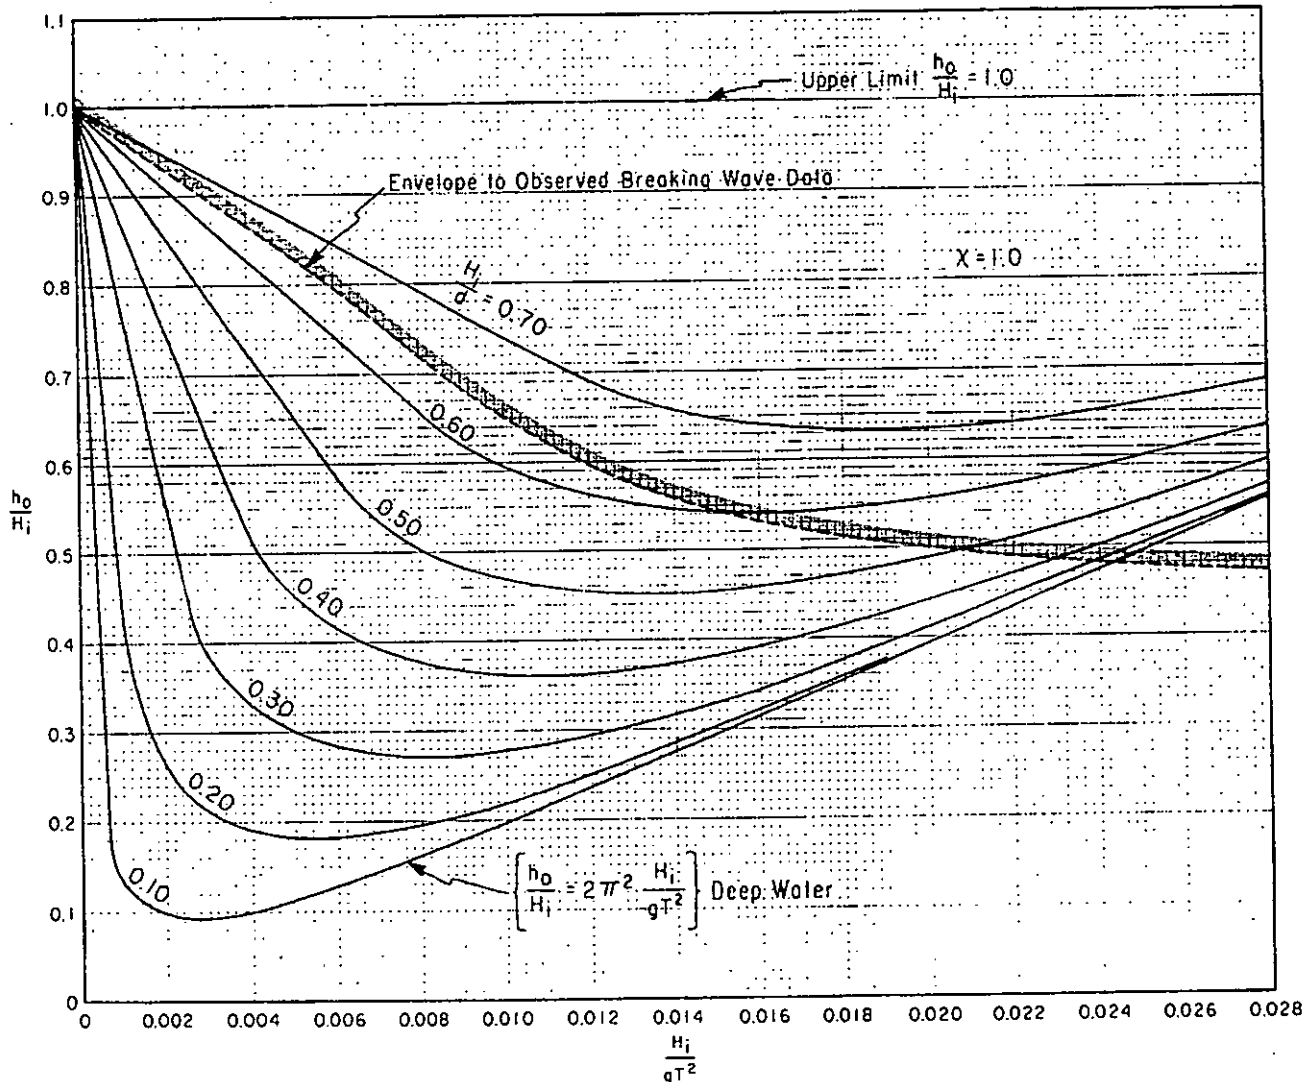
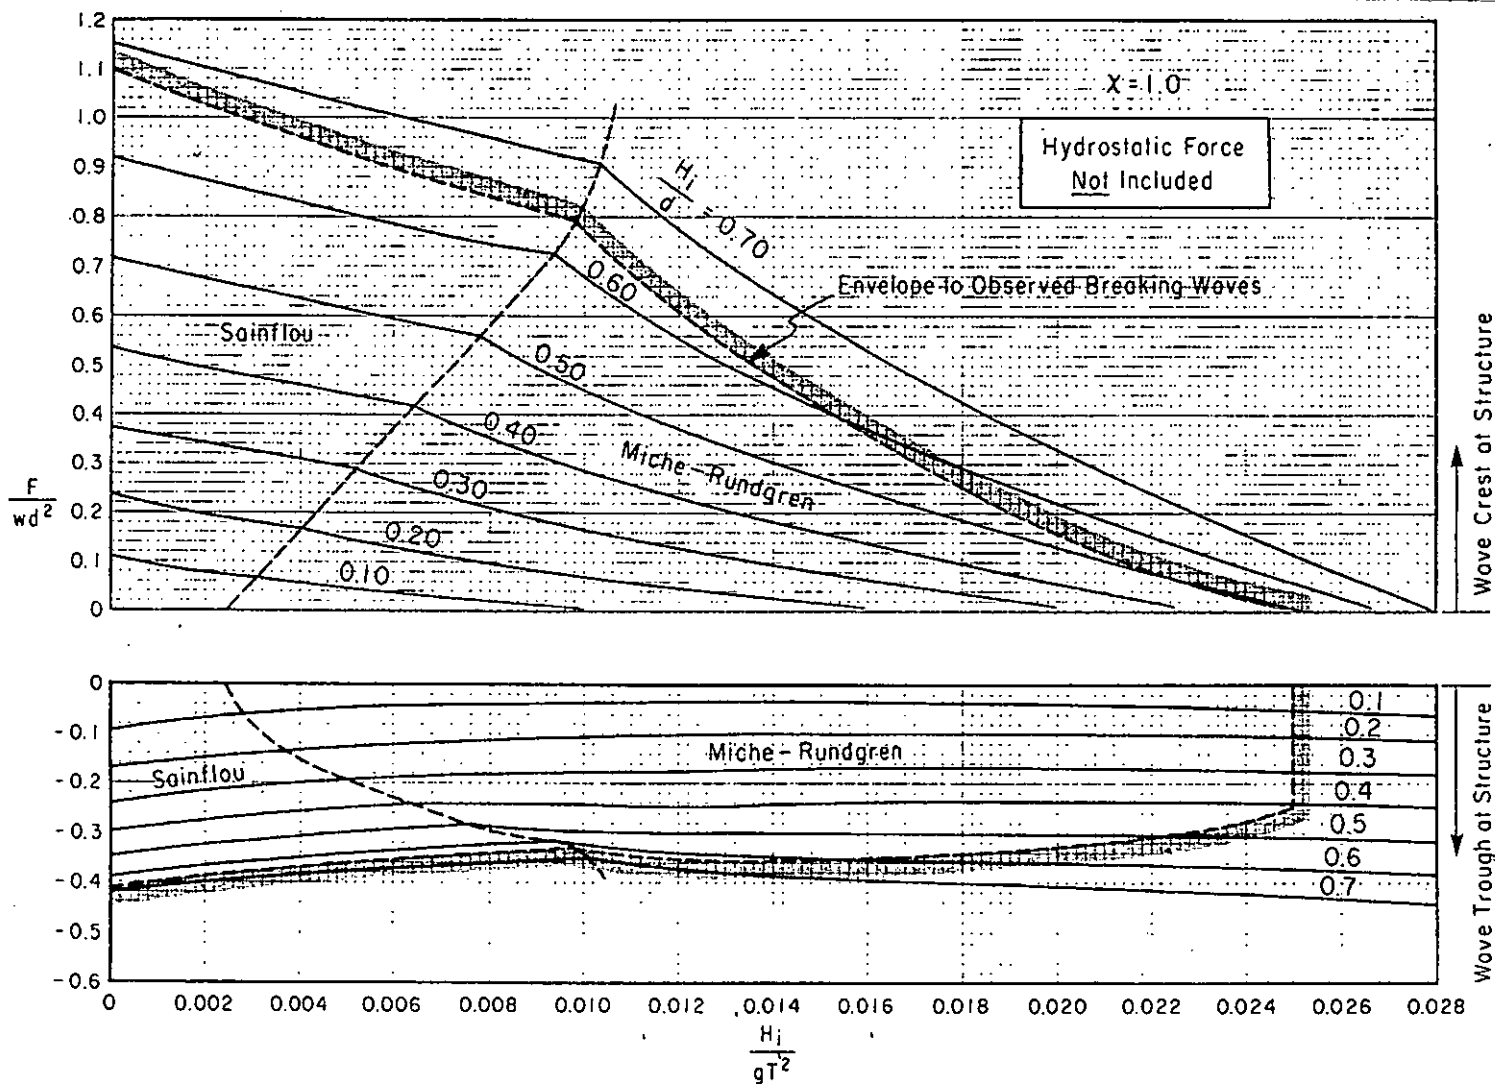
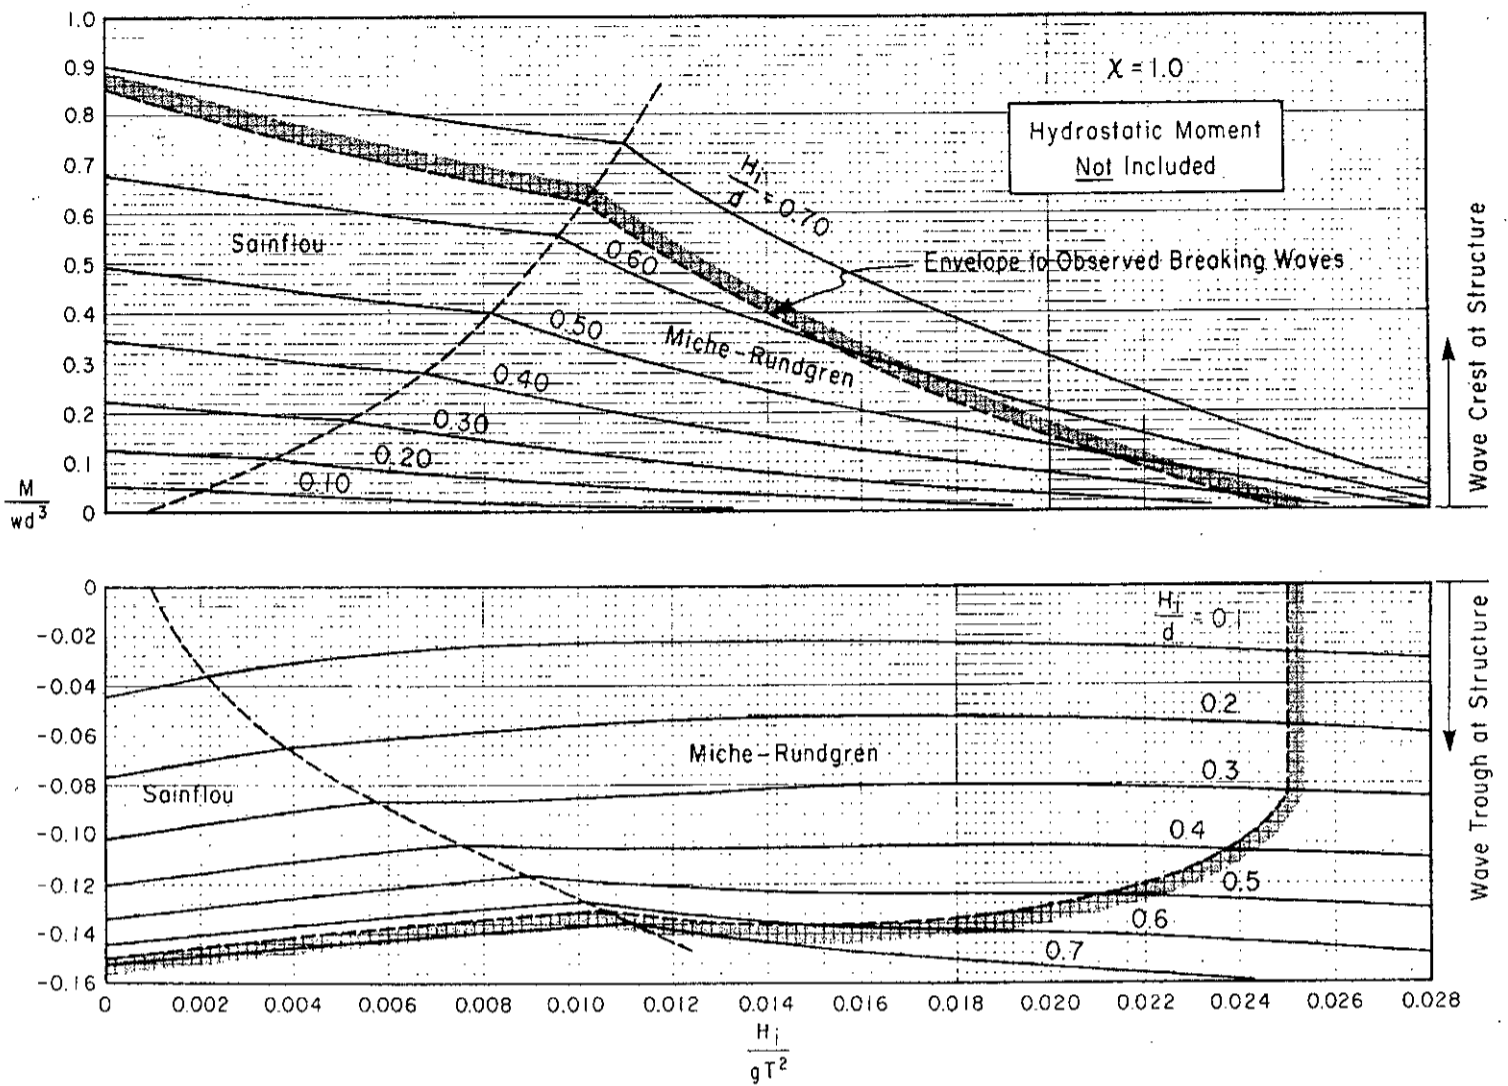

Figure 1 Nonbreaking waves; $\chi = 1.0$.
Figure 2 Nonbreaking wave forces; $\chi = 1.0$.
Figure 3 Nonbreaking wave moment; $\chi = 1.0$.
- (e) Find the non-breaking wave force and moments against a completely reflecting vertical wall ($\chi = 1.0$) resulting from the wave condition given below: (9)
- (iii) the wave period considered in the design is $T = 8.0$ sec. Figure 1, Figure 2 and Figure 3 is attached for relevant uses.
4. (a) Define : (i) Wave height, H , (ii) Wave number, k , (iii) Relative depth criteria, and (iv) Shallow water wave. (10)
- (b) What are the assumption to derive “small amplitude surface wave” theory? How can you prioritize the assumptions based on their importance? (8)
- (c) A wave with a period of 6 seconds is propagated shoreward over a uniformly sloping shelf from a depth of 325.0 m to a depth of 3.25 m. Find the wave celerity and wave length at depths of (a) 325.0 m, and (b) 3.25 m. (8)
- (d) What is the significance of the ‘dispersion relation’ equation in water wave theory? (4)
- (e) Illustrate the significance of the changes in value of (kd) and $\tanh(kd)$ when a wave travels from deep water through transitional water to the shallow water. (5)